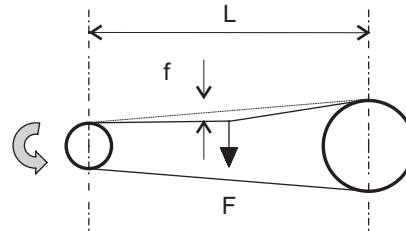

Figure 2 - Control of belt tautness
- Apply force  $F$  perpendicular to the free section in the middle, resulting in arrow  $f$  in the belt being equal to 1.6 mm by 100 mm of free section length (figure 2);